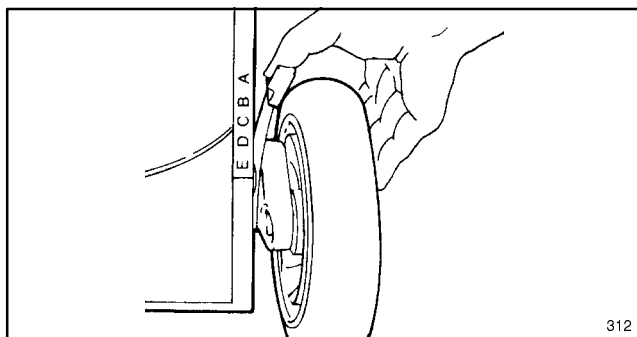

Figure 1
2. Put all four wheels in the highest height-of-cut position (Fig. 1).